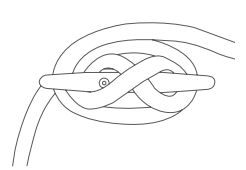

Fig 20 -
3. Make one more full loop in a clockwise direction and pull tight, for added security add one more full loop (Fig 20)